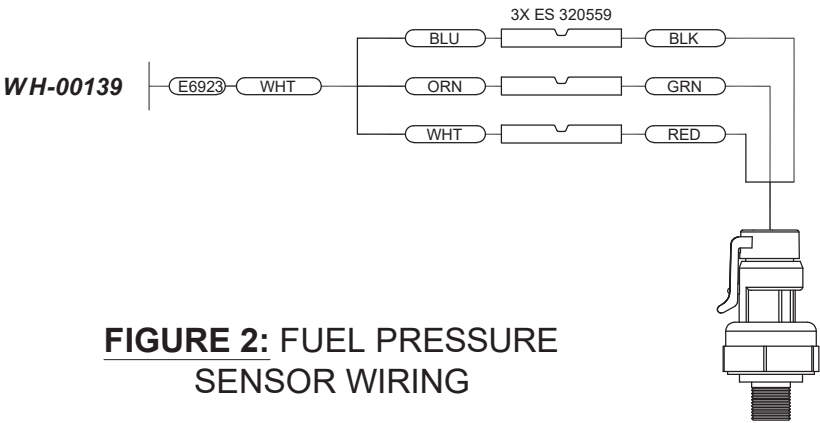

FIGURE 2: FUEL PRESSURE SENSOR WIRING
Step 8: Strip the insulation on each wire of the E6923 (WHT) cable, then crimp on butt splices to connect the wires to those coming from the 103755-000 Fuel Pressure Sensor. See Figure 2 for exact connections.